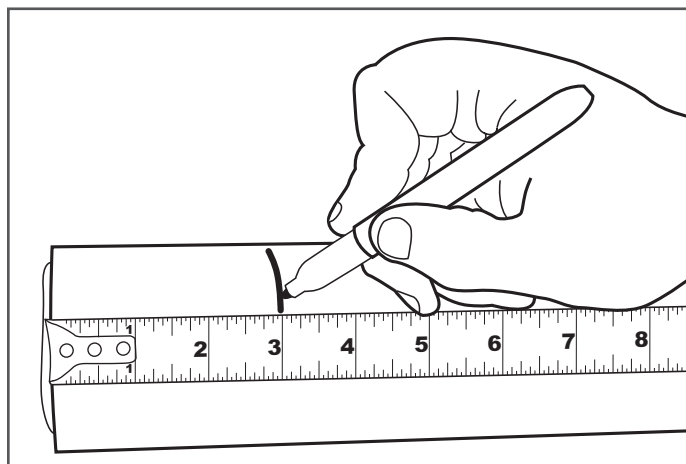

Figure 7-1
2. To determine the jacket strip length measure back 3" from the end (Figure 7-1).